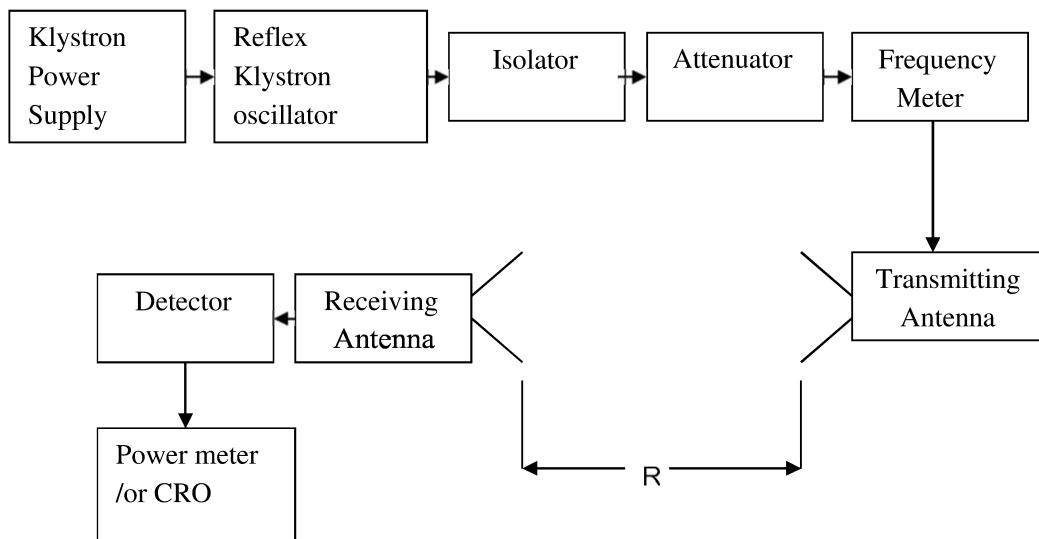

Figure 1: Experimental Set up for Determining Antenna Radiation Pattern
A directional coupler is a device with which it is possible to measure the incident and reflected wave separately. It consists of two transmission lines the main arm and auxiliary arm, electromagnetically coupled to each other Refer to the Fig.1. The power entering in the main-arm gets divided between port 2 and 3, and almost no power comes out in port (4) Power entering at port 2 is divided between port 1 and 4.